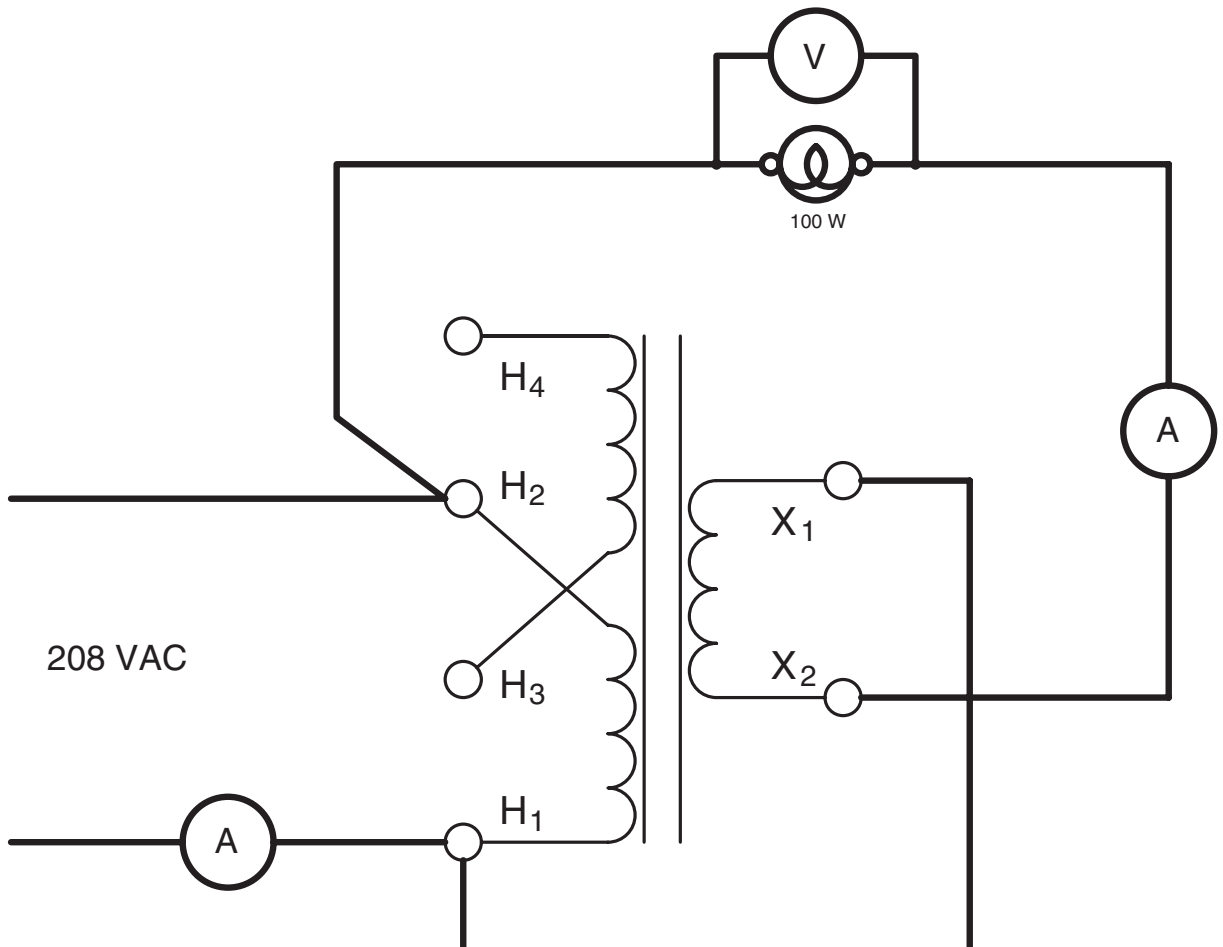

Figure 21-16 Connecting load to a subtractive polarity transformer.
23. Reconnect the transformer for subtractive polarity. If two ammeters are available, place one ammeter in series with one of the primary leads and the second ammeter in series with the secondary lead that is not connected to the H_1 terminal. Connect a 100 watt lamp in the secondary circuit, and connect a voltmeter in parallel with the lamp, as shown in Figure 21-16.